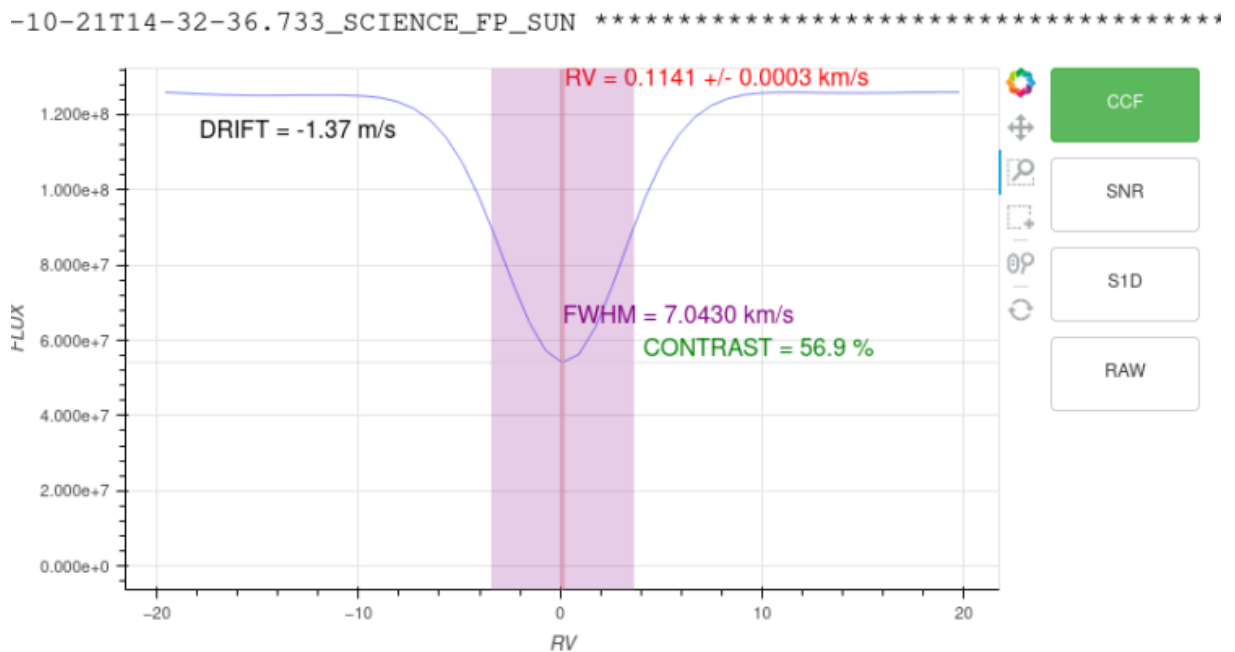

Figure 8 - Cross Correlated Function and RV information
When the CCF button is selected, in this quadrant are shown several information concerning the radial velocity (RV) and the cross-correlation function (Figure 8):
- The radial velocity and the associated error (RV)